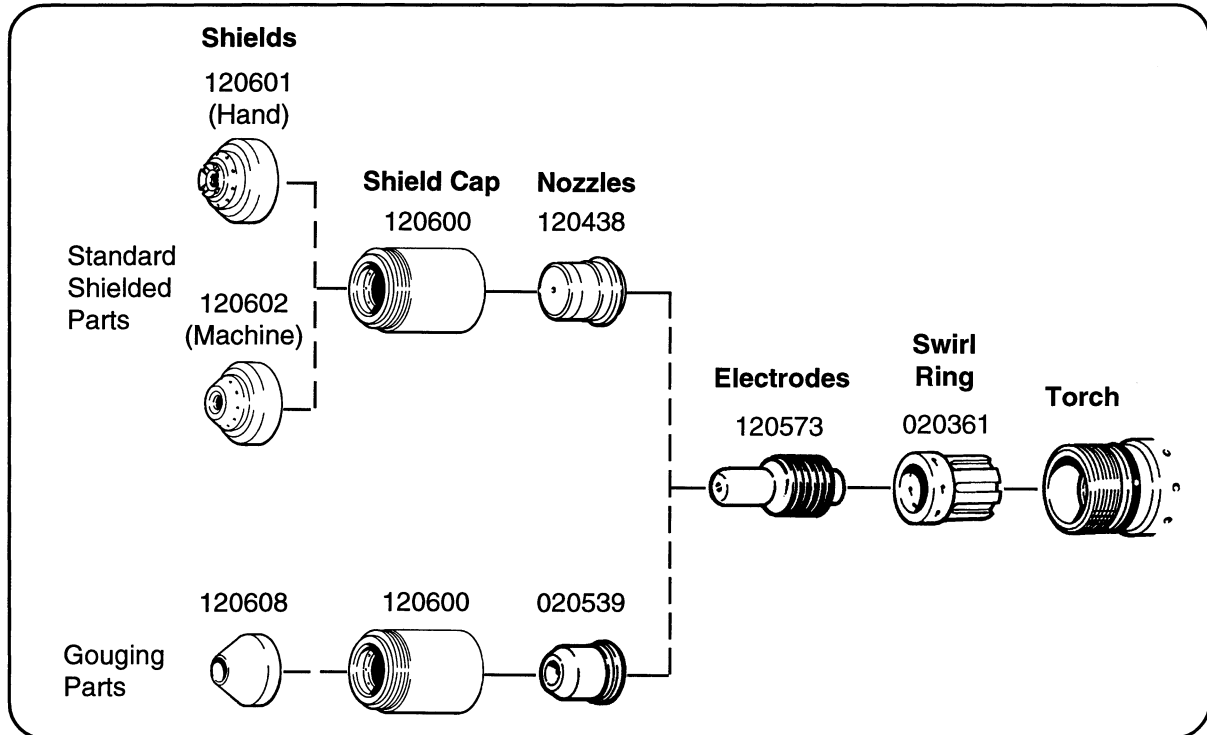

Figure 6-5 Shielded Torch Consumable Parts
* Consumables shown on Figure 6-5 and 6-6.